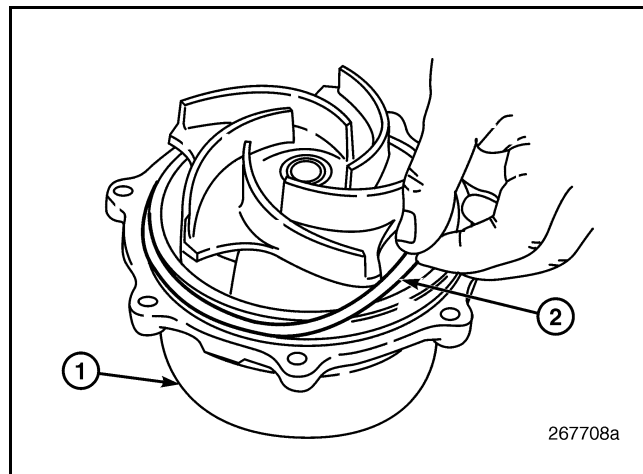

Figure 410 — O-Ring Installation
- If the pump cartridge assembly has been removed, install a **new** O-ring on the water pump cartridge assembly mounting flange (Figure 410).